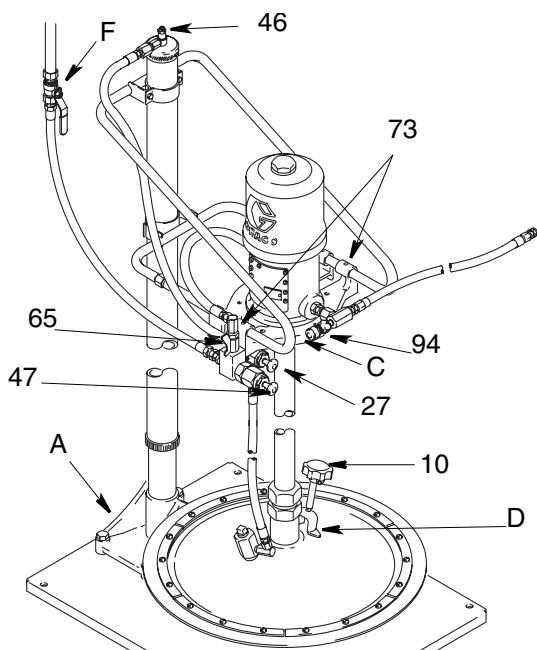

FIG. 9
Refer to FIG. 9 for the following instructions.
2. Press in and hold the air-assist valve (47) until the inductor plate rises above the drum. Release the valve. (FIG. 9)
3. Open the snap-over valve (27) and raise the elevator to full height. (FIG. 9)